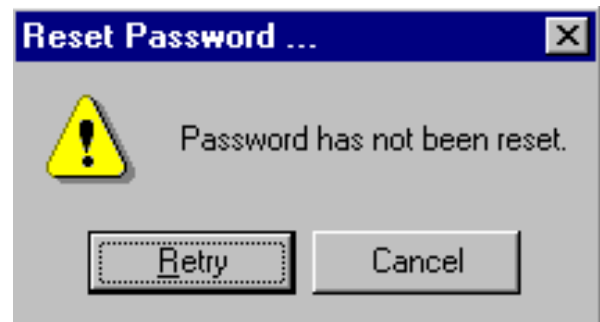

Fig. 13.43
4. If the password reset is not successful, the system will display the warning dialog box shown in Fig. 13.43. Correct the problem and retry the password change or cancel it.